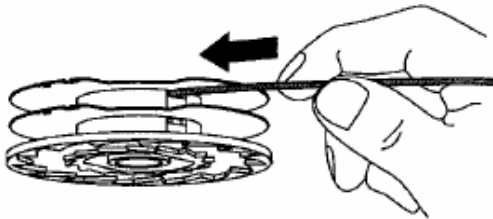

Fig. 22
3. Using 2 pieces of .080" replacement line measure off approximately 10.5' of line. Put 2 lines into 2 slots of the spool. (Fig. 22).